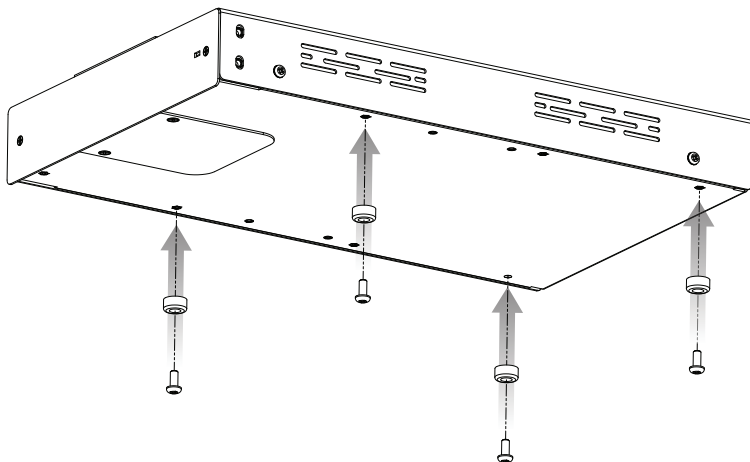

Figure 7 - Rubber Feet Installation
The LC372SR is supplied with four (4) removable rubber feet for standard installation on a shelf. Attach the rubber feet using the supplied screws as shown in Figure 7.